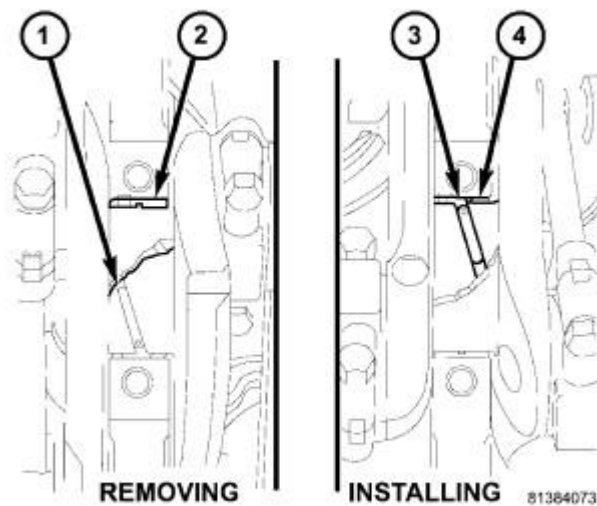

Fig. 313: Removing & Installing Upper Main Bearing With Special Tool C-3059
1. Lubricate main bearing (4) with clean engine oil.
2. Start bearing (4) in place, and insert Main Bearing Tool (special tool #C-3059A, Remover/Installer) (3) into oil hole of crankshaft. Refer to **Fig. 313**.